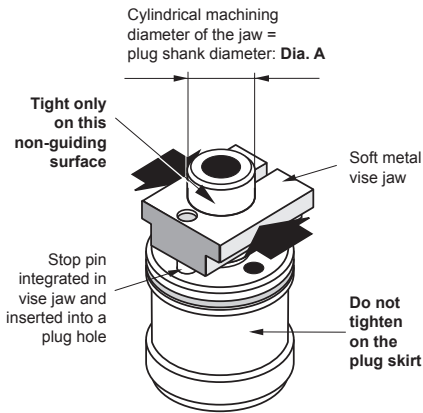

Figure 4 - Valve Plug Stem S/A Disassembly
The valve plug stem is screwed, pinned and tack welded into the valve plug (8). To disassemble the stem, the valve plug must be held as shown below in Figure 4, taking care not to damage the guiding surfaces. Remove tack weld if applicable and disassemble the plug stem groove pin (24) from the assembly. By means of flats or using a nut and counter-nut on the end of the stem, unscrew the stem from the plug taking care not to apply a bending movement which could deform it.